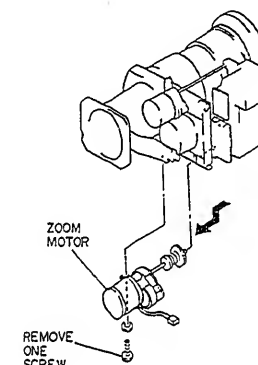

Fig. 2-104
1. Remove one (1) screw holding the zoom motor. (See Fig. 2-104)